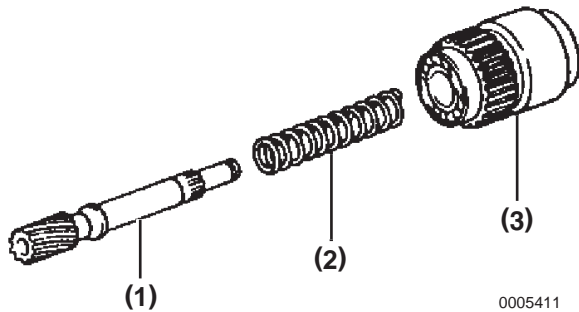

Figure 10-24
4. Reassemble the starter housing and clutch assembly by assembling the clutch shaft, spring and starter clutch (**Figure 10-24**).